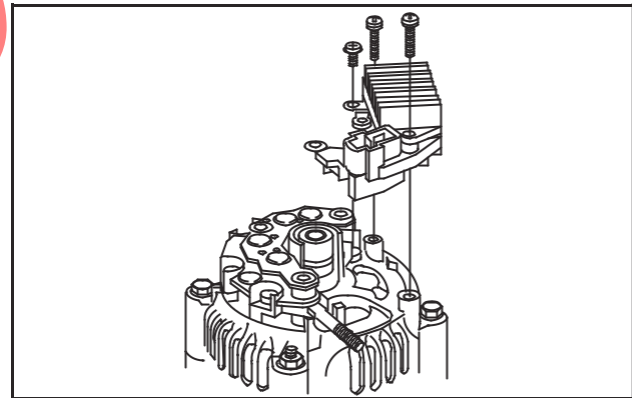

Fig. 40 – Install Regulator
7. Install regulator with three screws shown, Fig. 40.